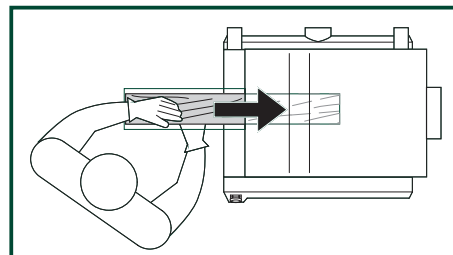

FIG. 38
- When planing, the feeding direction of the workpiece is left-to-right under the cutterhead. FIG. 38, 39.
1. To feed the workpiece into the machine, assume proper operating position, FIG. 38. Stand offset to one side of the feed opening to avoid any kick-back, should it occur. Do not push the lumber once the infeed roller has been engaged. Let the infeed roller move the workpiece into the planer at its own pace.